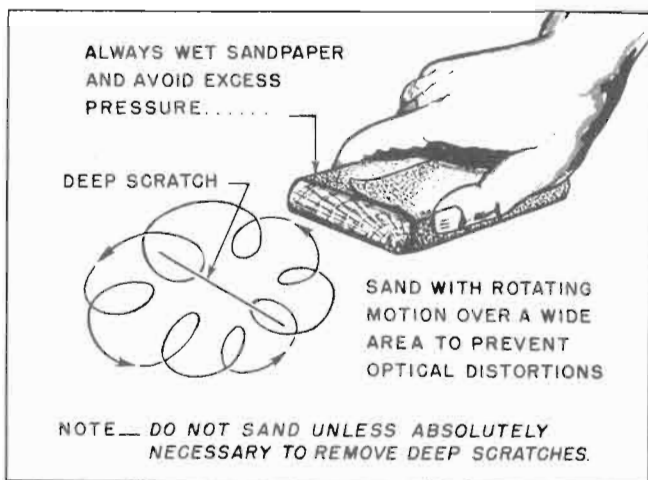

Figure 98 — Removing Deep Scratches from Plastic Panel
3. DEEP SCRATCHES.—(See figure 98.)—If the scratches are too deep to be removed by the procedure outlined for minor scratches, it may be necessary to sand the area around the scratches. It is to be noted, however, that the panels should not be sanded unless absolutely necessary. Wrap a sheet of 320A fine